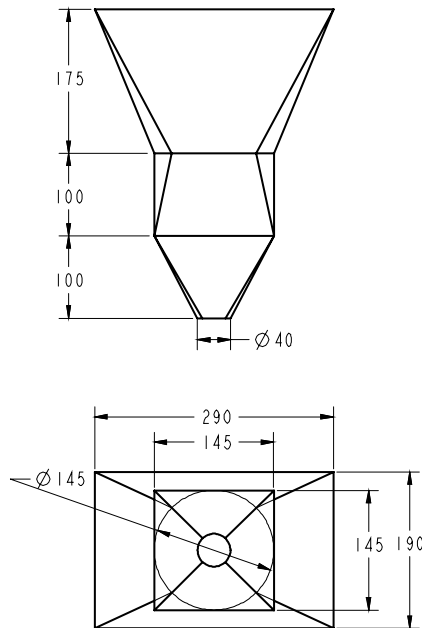
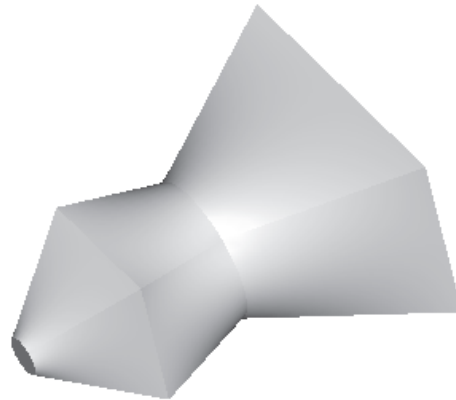

Figure 7-53 Top and front views of the model
Figure 7-54 Isometric view of the model
In this tutorial you will create a blend feature shown in Figure 7-54. The two views of the blend feature are shown in Figure 7-53 with dimensions. After creating the model you will redefine such that the straight blending is changed into smooth blending. **(Expected time: 45 min)**
- a. First, examine the blend feature and determine the number of sections in this feature. The blend consists of four sections, see Figure 7-53.
After the sketches of all the sections are completed, you need to specify the depth between each section. The dimensions for depth between each section can be referred to from Figure 7-53.